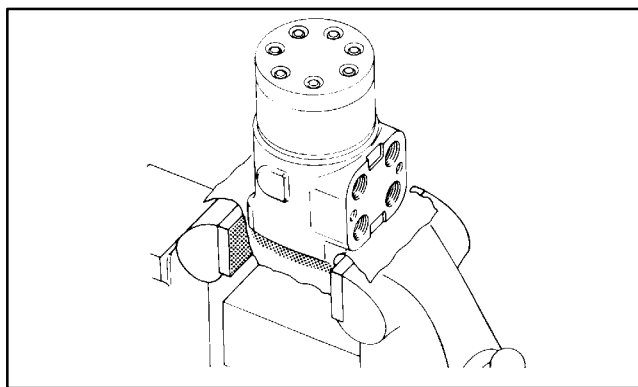

Figure 25
1. Clamp unit in vise, meter end up. Clamp lightly on edges of mounting area, see Fig. 25. Use protective material on vise jaws. Housing distortion could result if jaws are over-tightened.